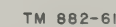

Figure 63. Band selector, functional block diagram.
79. BAND SELECTOR and TUNING Controls (fig. 63)